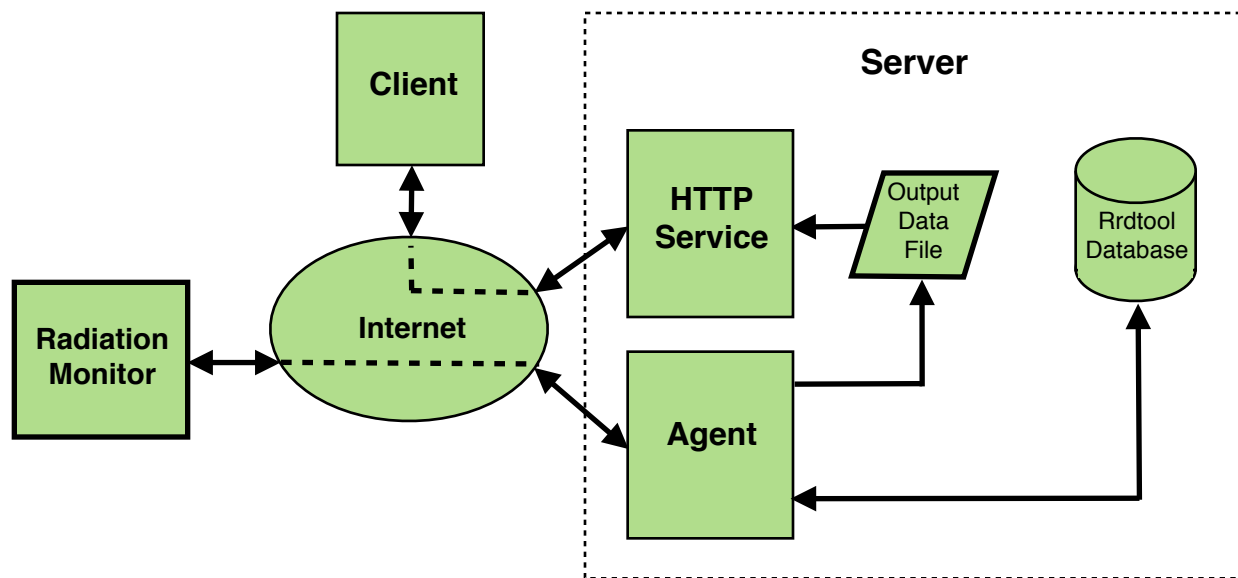

Figure 4. Block diagram of server software components showing data i/o, agent process, HTTP service, and database elements.
Referring to figure 4, the server components consist essentially of two pieces: an HTTP server component and an agent component. The HTTP server component includes HTML documents, with embedded Java script, for displaying the radiation monitor data in a web browser. The agent, a Python script, manages data conversion and reformatting, updating a database, and generating graphical charts. Events flow in the following manner. The agent periodically makes an HTTP request of the radiation monitor. The radiation monitor responds with a single string containing the data. Below is a typical example of a data string received from the radiation monitor.
The agent parses this string, writes the data to a rrdtool database, and writes the data to the “Output Data File” for use by HTML documents. When a client requests a radiation monitor HTML document, Java script embedded in the document reads the output data file and displays this data in an HTML document. Although not shown in figure 4, the agent, as mentioned earlier, generates graphic charts for display in HTML documents. The graphic charts are stored as image files which Java script in the HTML documents can display in the radiation monitor web page.
4. The input and output data files (see figure 4) get overwritten frequently; similarly the graphic image files get overwritten frequently. On SD card systems, such as a Raspberry Pi, it is inadvisable to do frequent writes to any file system mounted on the SD card. To use the ram based temporary file system (tmpfs) to store these files, continue with step 5. Otherwise, to write dynamic content to the disk drive, continue with step 7.